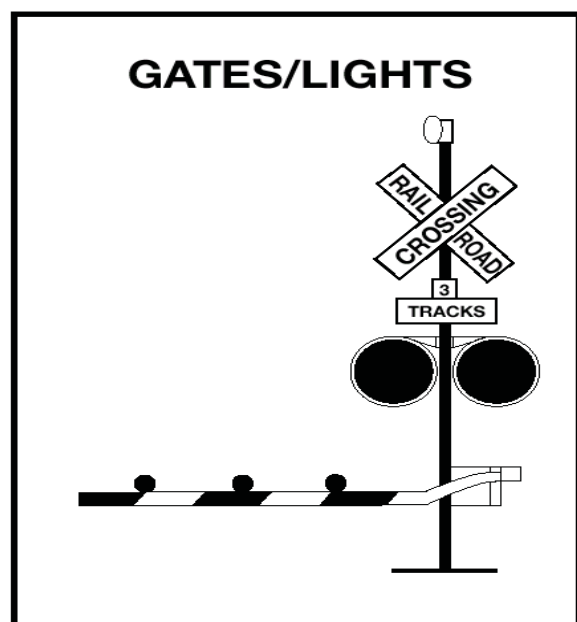

Figure 2.18
**Flashing Red Light Signals.** At many highway-rail grade crossings, the crossbuck sign has flashing red lights and bells. When the lights begin to flash, stop! A train is approaching. You are required to yield the right-of-way to the train. If there is more than one track, make sure all tracks are clear before crossing. See Figure 2.18.
gates go up and the lights have stopped flashing. Proceed when it is safe. See Figure 2.18.